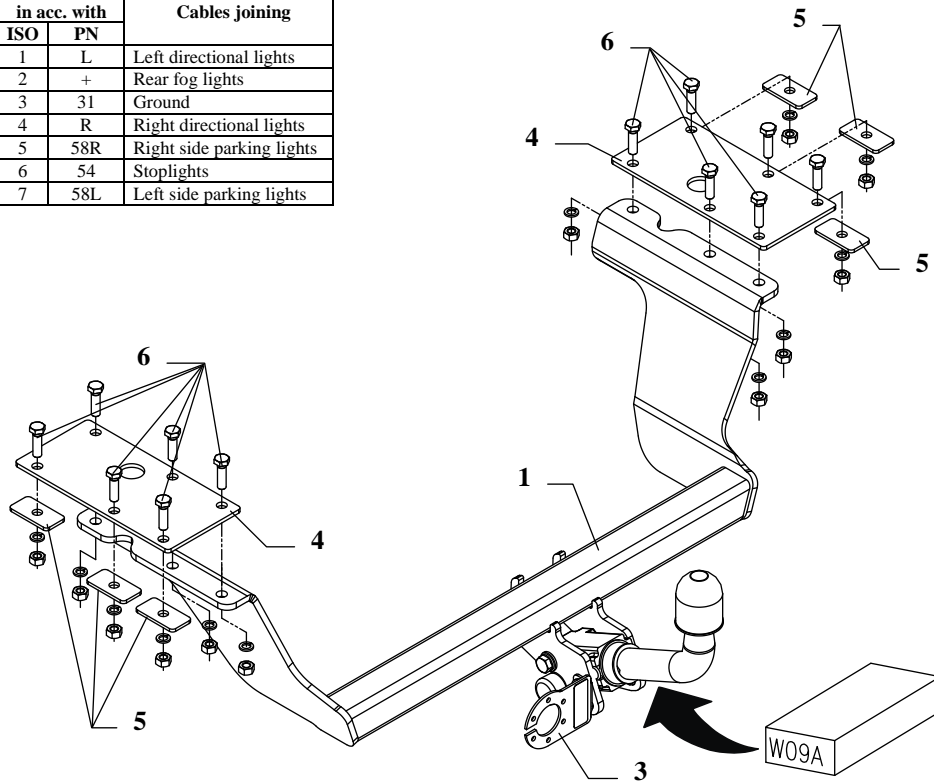

Fig. 1
3. Through ready made holes put bolts M10x35mm (pos. 6).
4. From the bottom of the car, apply (on protruding bolts) the main bar of the towbar (pos. 1) and fix as showed on the fig. 1.
6. Fix body of the automat and place tow-ball according to supplied instruction. Note! Remember to place socket plate (pos. 3) as shown on the drawing 1.